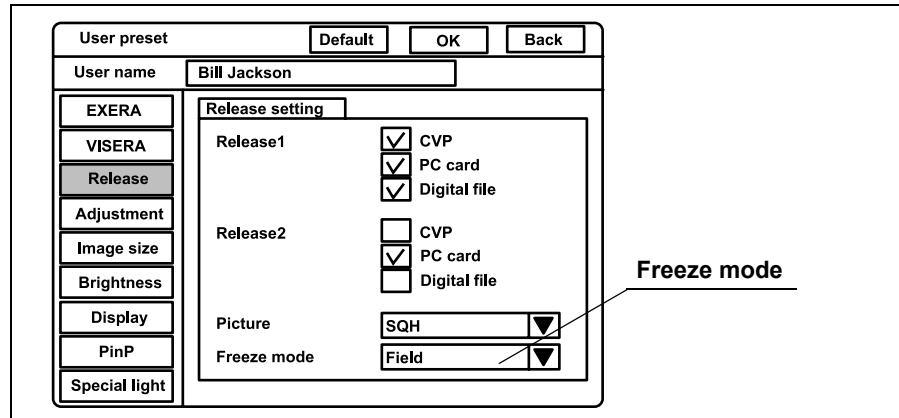

Figure 9.20
1. Click “ ▼ ” of “Freeze mode” (see Figure 9.20). The freeze modes appear in the pull-down menu.